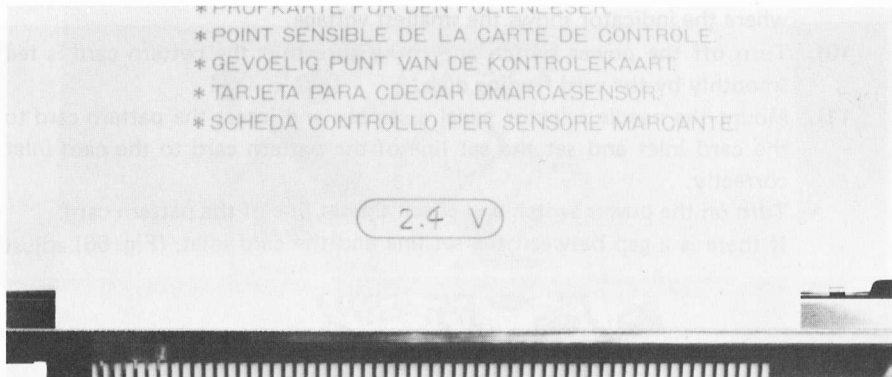

Fig. 57
- 1). Set the mark sensor at the center of the card guide A window. At this time, use the special card for level checking instead of the pattern card No.1 (Fig. 57)